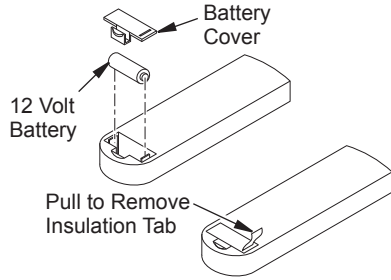

Figure 38 - Installing Battery in Hand-Held Remote Control Unit (SKYTECH)
5. Activate handset battery by removing insulating tab on back (see Figure 38).